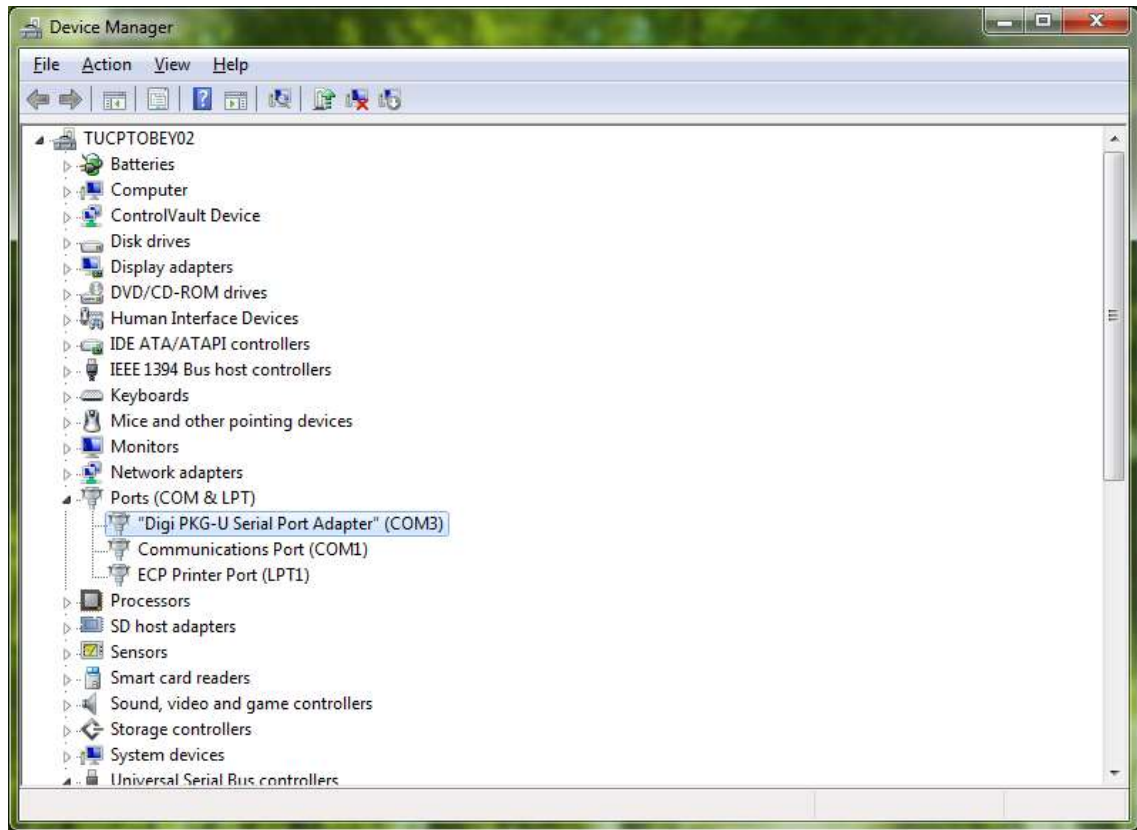

Figure 6
14. Identify the COM number shown in parentheses after “Digi PKG-U Serial Port Adapter” in the list (in Figure 6 above, the value would be “3”). Write this number in the table below and keep it for later as it will be needed during the Soil Manager installation.